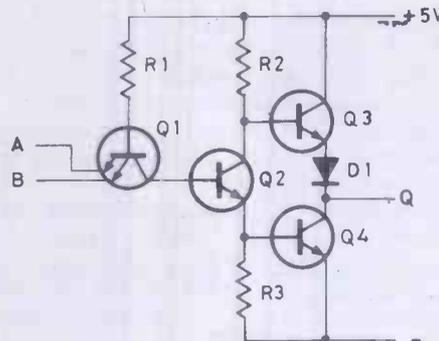

Fig. 6.15 A TTL NAND-gate circuit.
Logic circuits can be built with separate transistors. (these are called discrete circuits) but it's much simpler to make use of the ready-made ICs which are cheap and easily obtainable. The best types for experimental work are the ones referred to as TTL (Transistor-Transistor Logic). A typical circuit for a TTL gate (it's a 2-input NAND gate) is shown in Fig. 6.15. The gate consists of four transistors, a diode, and four resistors, and four
**Rule 1.** The supply voltage has to be 5 V. You can get away with 4.5 V, but you can't get away with 6 V. The supply should preferably be a stabilised 5 V mains supply. Reason? The inputs are always to the emitters of transistors with the bases connected to supply voltage. If you use a 6 V supply, far too much base current will pass when an emitter is earthed. Remember that the base current is limited only by R1 in Fig. 6.15.